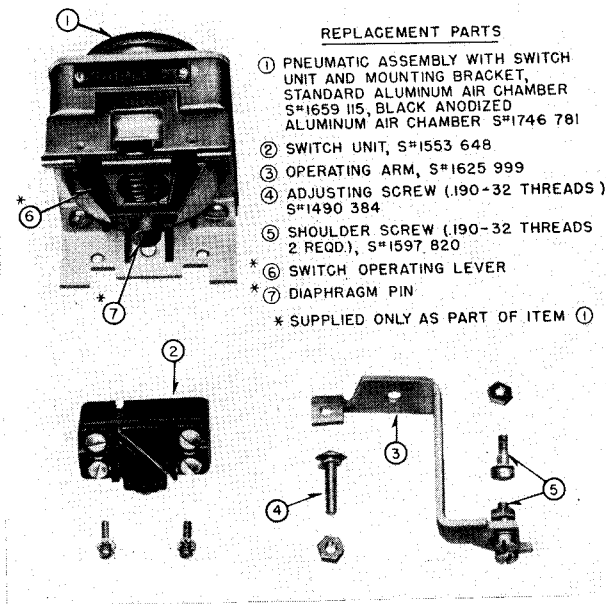

FIG. 3. Type AMB Relay Replacement Parts
When the contactor magnet is energized, the relay operating arm (3), Fig. 3, moves downward. Through the action of the relay operating spring and switch operating lever (6), the diaphragm pin (7) is then retracted downward. This downward movement of the pin is retarded by the adjustable orifice which regulates the rate at which air can enter the diaphragm chamber. Transfer of the switch contacts takes place before the final $\frac{1}{32}$ inch of diaphragm travel. When the coil of the associated contactor is de-energized, the contactor kickout
The switch operating lever (6), Fig. 3, is accurately adjusted at the factory and should retain this setting indefinitely. However, if the relay is mechanically damaged, or if it must be dismantled to replace a switch or spring, it may be necessary to readjust this lever after reassembly in order to obtain the proper relation between the switch operating position and the diaphragm pin travel. If so, grasp the tail piece of the operating lever with a pair of pliers and force the opposite end of the operating lever against the shoulder of the operating pin with the fingers. Bend the tail piece slightly in the proper direction to correct the difficulty experienced, and check to see if the switch unit operates when the operating lever is $\frac{1}{32}$ inch from the shoulder of the operating pin. Caution must be used in making this adjustment as very little bending is required to produce a correct operating lever action.